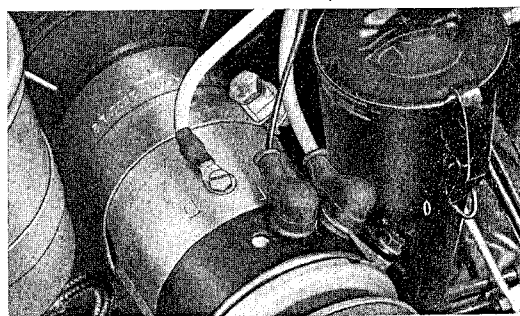

Fig. 21
13. Connect the generator leads correctly (Fig. 21).